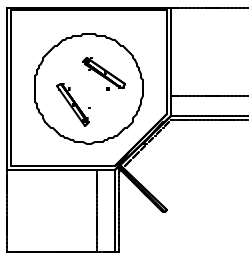
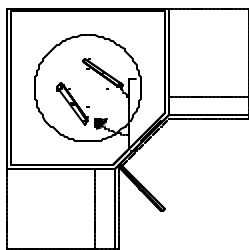
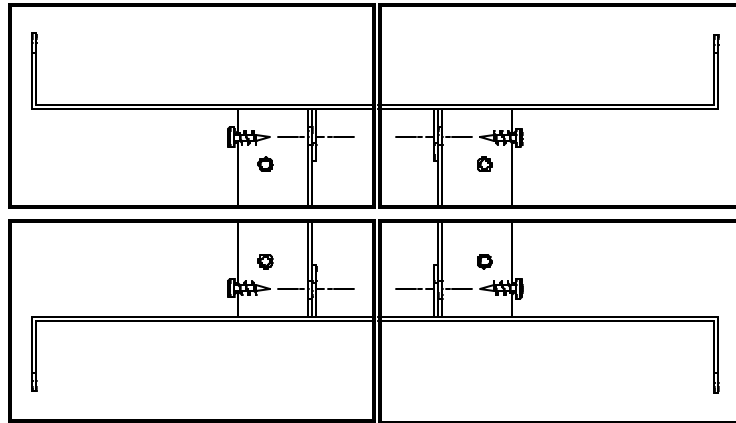
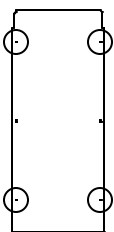

Figure 3
Figure 4
Figure 5
Figure 6
Step 7: Locate the frame sides. Install each side separately. Rotate the ends on the base so that one side is open wider than the other (fig. 3). Rotate the base so that this side is accessible to the doorway (fig. 4). Slide the frame side through the doorway and into place with its flanges inside the two ends (fig. 5). Using (4) #6 screws per side, screw one into the top hole and one into the bottom hole of each end (fig. 6). Tighten the screws. Repeat this step for the second frame.